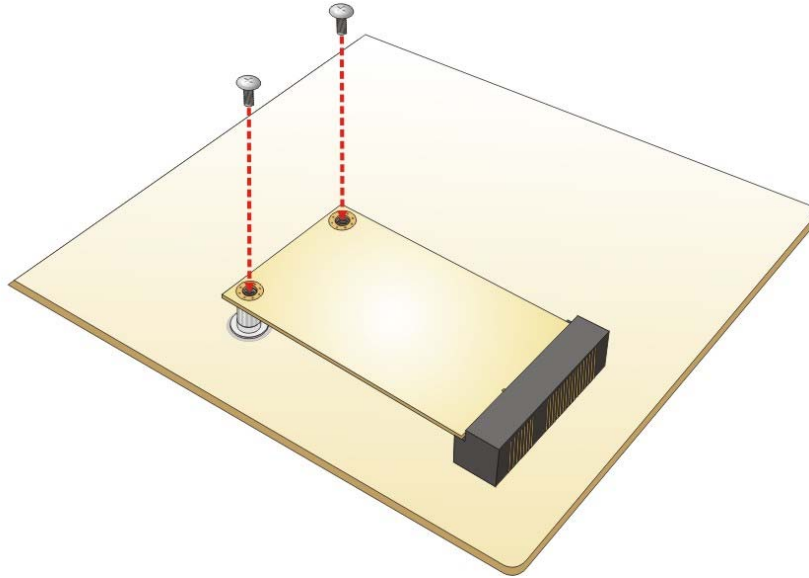

Figure 4-9: Secure the PCIe Mini Card
Step 4: **Secure the PCIe Mini card.** Secure the PCIe Mini card with the retention screws previously removed (**Figure 4-9**).